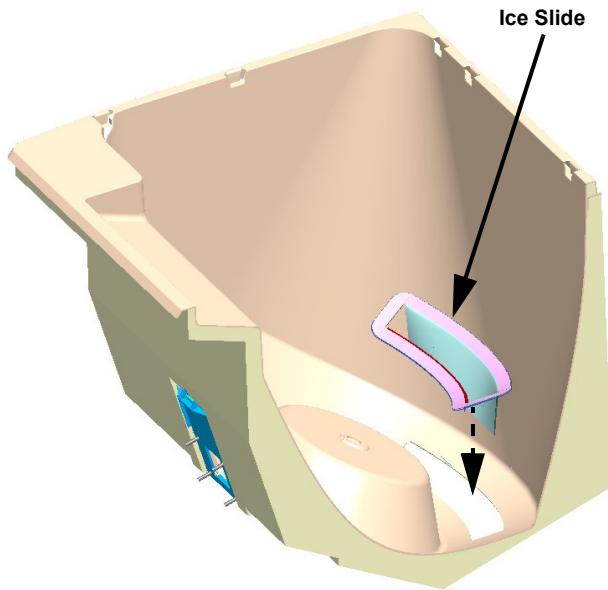

Figure 2. Ice Slide Assembly
1. Place ice slide into ice drop opening in bin (see Figure 2).